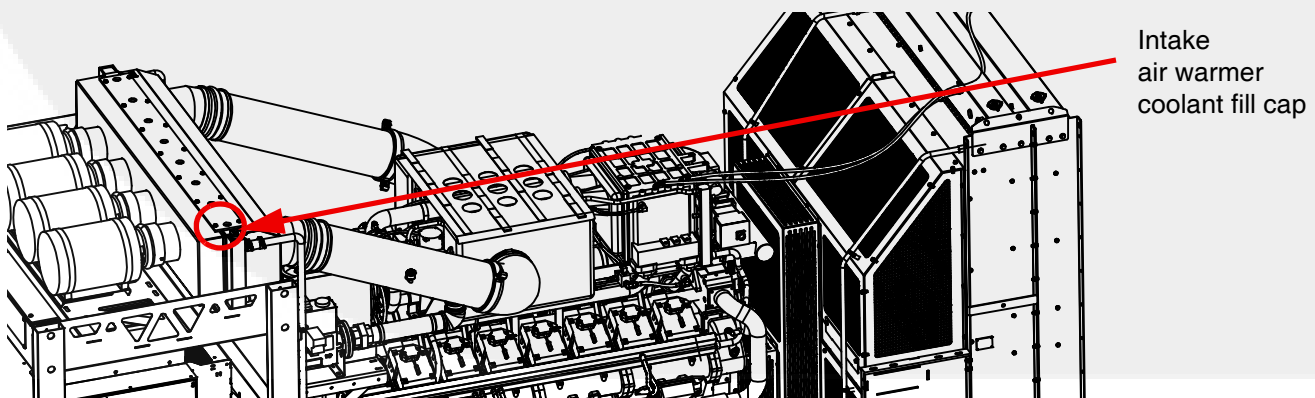

Figure 5-10 Intake air warmer coolant fill cap (GenSet right side)
2. Twist the intake air warmer fill cap counter-clockwise and open the intake air warmer coolant fill port (see Figure 5-10).